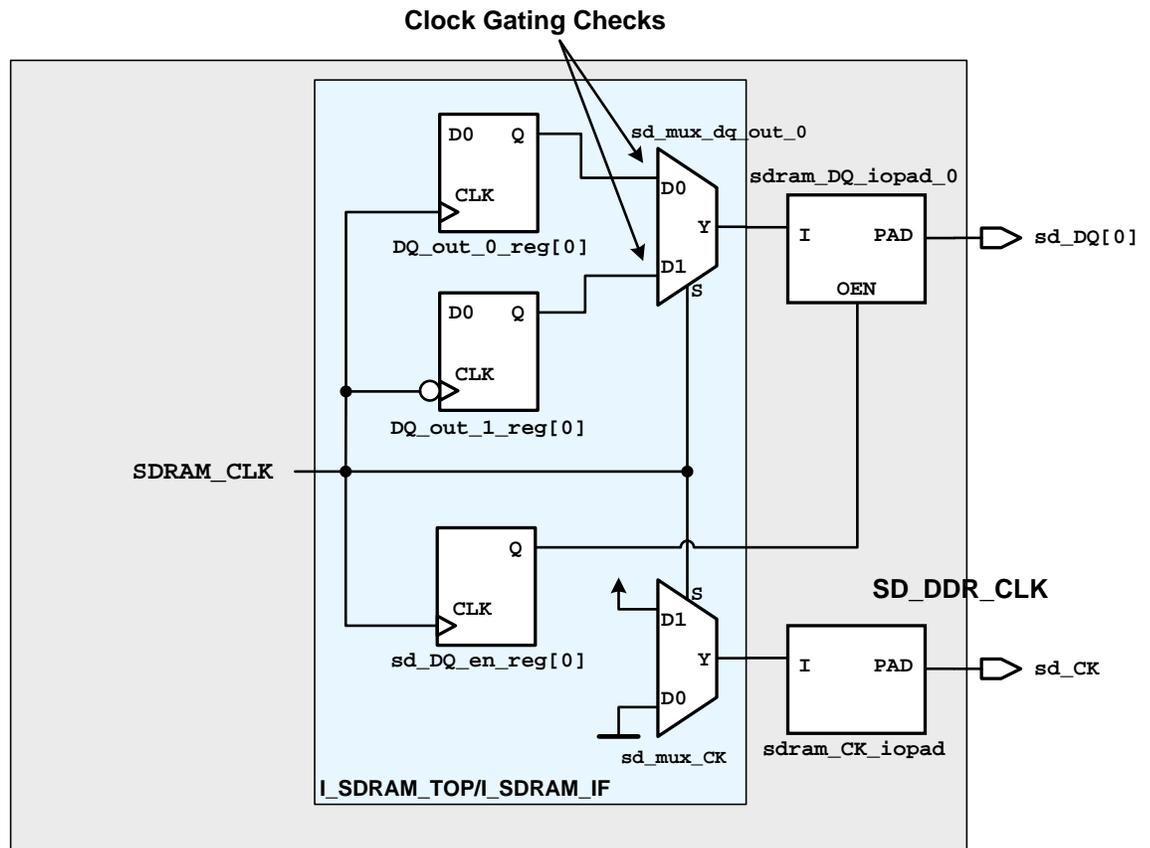

Figure 1. SDRAM interface
**Question 5.** Why are the above sinks classified as `implicit_exclude_pin`? Hint: See **Figure 1** below and look at the `SDRAM_CLK` sinks.
Figure 1 shows the *SDRAM* interface. The clock *SDRAM\_CLK* is connected directly to the select pins of muxes, which in turn, will drive the output PADs at the chip level. In this lab we are using the block-level design called *ORCA\_TOP*, so the MUX outputs are connected to output ports *sd\_DQ* and *sd\_CK* instead of IO pad cells. The “dummy” mux driving *sd\_CK* is required because of the tight timing requirement of the DDR SDRAM interface, which produces data at its output data ports on both the rising and the falling clock edges. This design requires that the clock skew from *SDRAM\_CLK* to *sd\_DQ* and *sd\_CK* be optimized. By default select (S) pins are marked as “*implicit\_exclude\_pin*”. To have CTS balance the skew you need to redefine these select pins as “*stop pins*”, as shown in lecture.